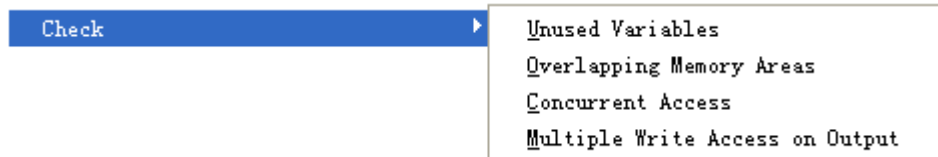

Figure 2-3-9 Check Sub-menu
- **Project [P]/Check:** View information of variables, as shown in figure 2-3-9. Refer to section 8.2.3 for details.